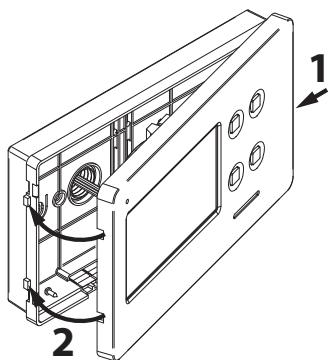

Fig. 7
6. Once testing is complete and all the necessary adjustments are made, close the unit as shown in **Fig. 7**: first hook in the right part and then the left part until you hear a "CLICK!".